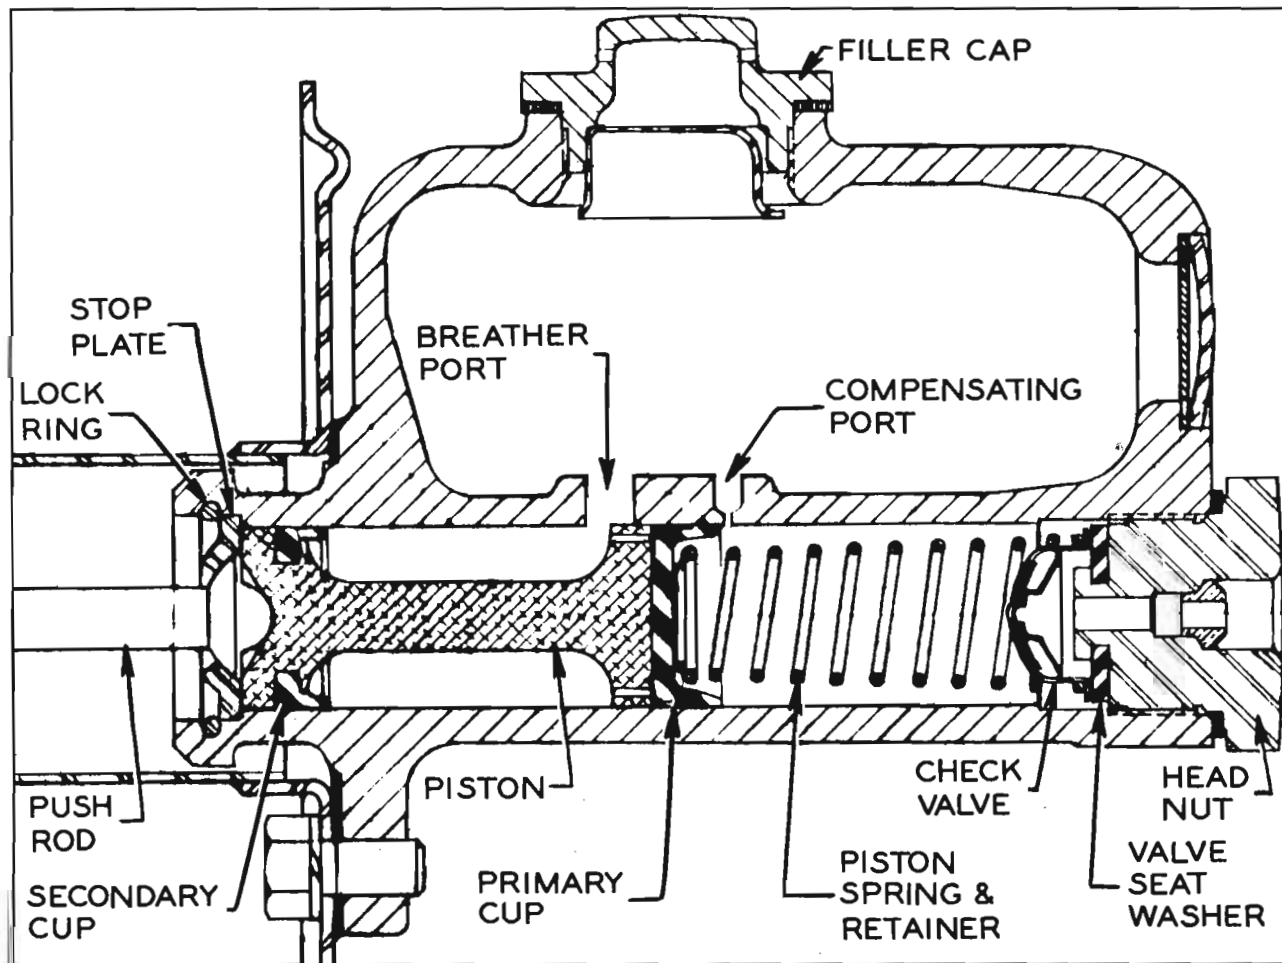

Figure 9-12—Brake Master Cylinder
3. Remove head nut, check valve and spring. Remove lock ring, then remove push rod, stop plate, piston, and primary cup. See figure 9-12.
2. Dip internal parts in brake fluid, then install piston with secondary cup, primary cup, spring with its retainer against primary cup, check valve, and head nut with rubber valve seat washer and nut gasket. Tighten head nut securely. See figure 9-12.